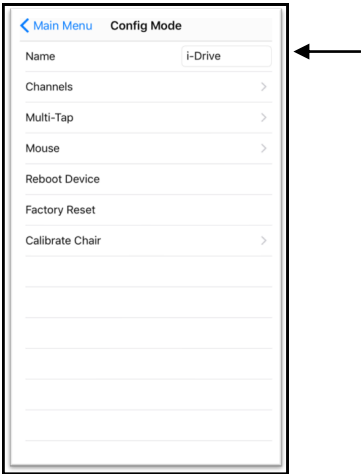

Figure 3
1. In the *Main Menu*, Select *Config Mode* (Figure 3). Like the Advanced Programming Software on your PC or tablet, channel assignments, double tap settings, and other sensor settings are adjusted here.